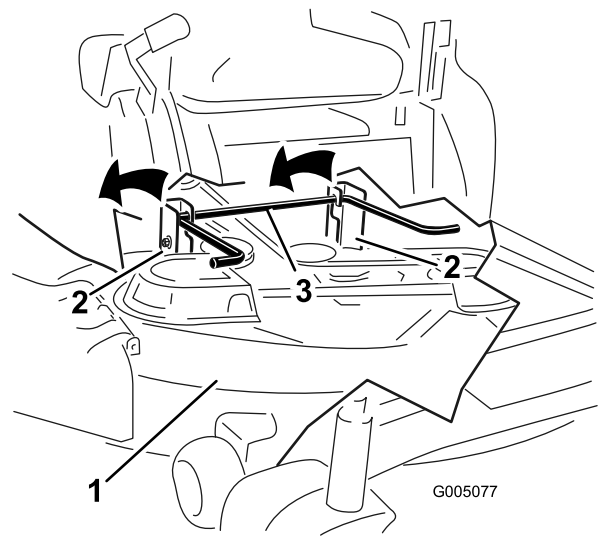

Figure 74
1. Deck-lift spring (2)
7. Lift the mower deck and hanger brackets clear of the rear lift rod and lower the mower carefully to the ground (Figure 74).
5. Lift the rear of the mower deck and guide the hanger brackets over the rear lift rod (Figure 74).